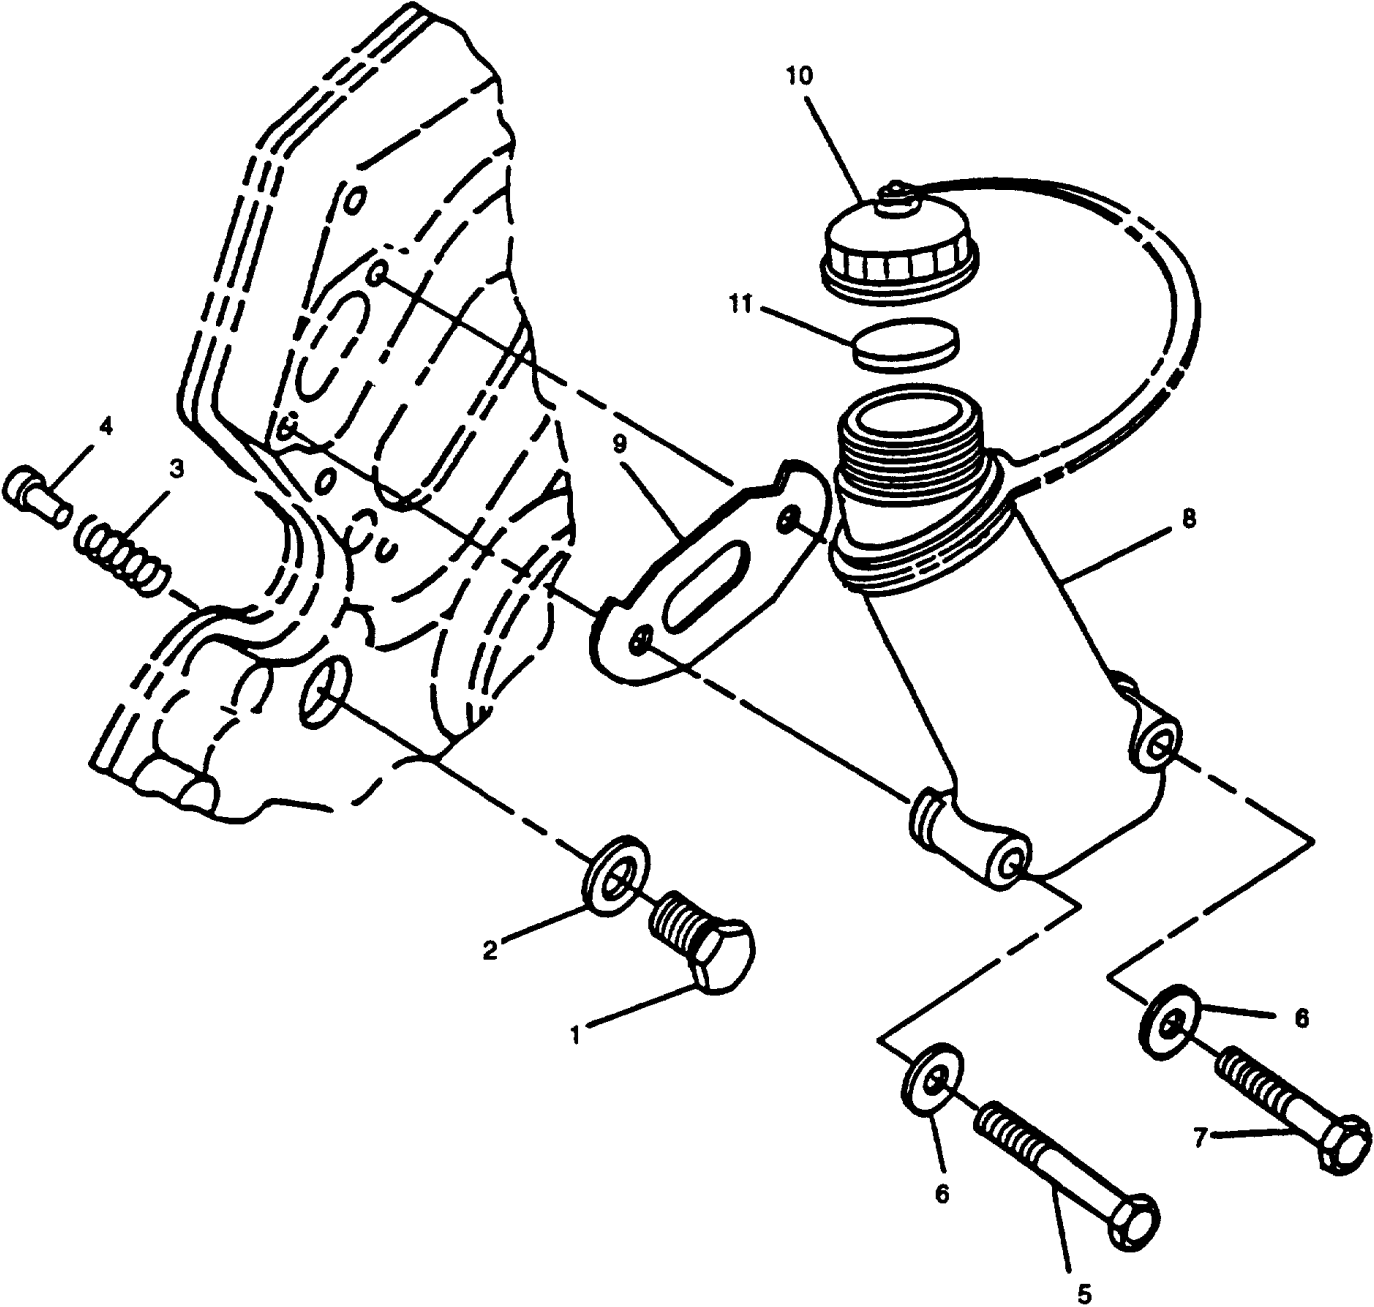

FIGURE 3-32. Oil Pressure Regulating Valve and Oil Filler Assembly
**Spring (3, FIGURE 3-32) is under pressure and can cause personal injury when plug (1) is removed.**
- b. Remove oil pressure regulating valve plug (1) and washer (2).
- c. Remove oil pressure regulating valve poppet (4) and spring (3).
**If engine is being repaired due to low oil pressure, replace spring (3, FIGURE 3-32). If due to high oil pressure, install an additional washer (2).**
- b. Install oil pressure regulating valve poppet (4) and spring (3) in engine block.
- c. Install washer (2) and plug (1). Tighten plug to 70 ft-lbs (95 Nm).
- b. Remove two capscrews (5 and 7, FIGURE 3-32) and washers (6) securing filler neck (8) to engine block. Remove filler neck (8) and gasket (9); discard gasket.
- b. Inspect filler cap (10, FIGURE 3-32) and gasket (11) for damage. Replace as necessary.